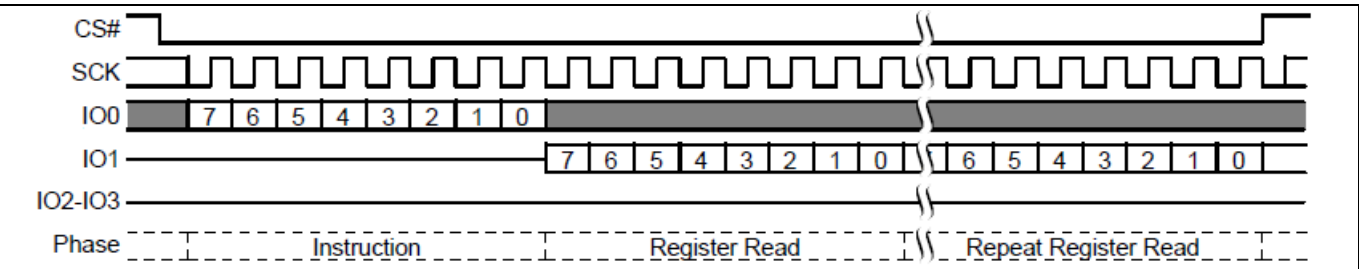

Figure 11 Read register command sequence
- (0) Read the register of QUAD. The two arguments include Device and Command.
- (1) Transmits the Command argument to the set device.
- (2) Waits until the SMIF_RX_DATA_MMIO_FIFO_STATUS.USED4 bits are greater than or equal to 1.
- (3) End. When it is necessary to read only 1 byte from FIFO, check SMIF_RX_DATA_MMIO_FIFO_RD1 register.
- RDCR and RDSR1 commands are read register command sequences as shown in Figure 11.